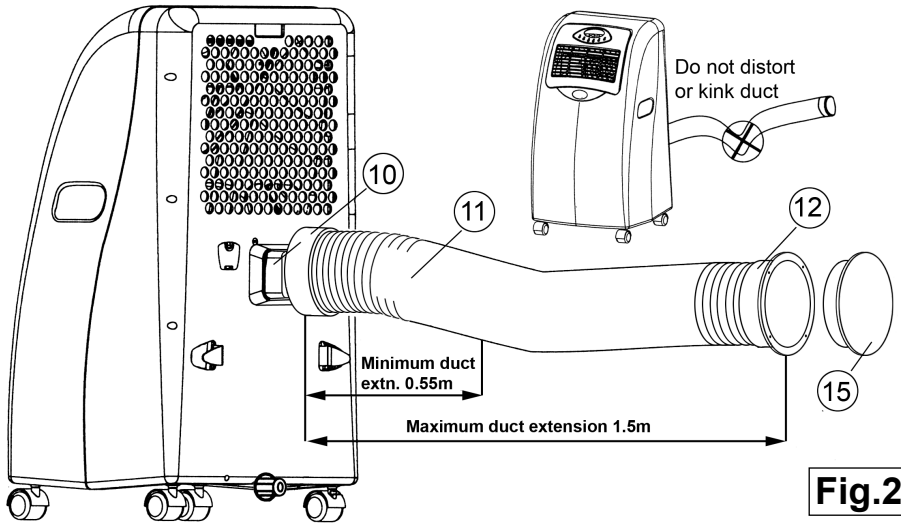

Fig.2
4.1 Assembling the exhaust duct. See fig.2. First extend each end of the duct (11) and attach the inner adaptor (10) and the outer adaptor (12) using a clockwise threading action. Push the inner adaptor into the exhaust air outlet on the back of the unit. See fig.1-7. The exhaust can be extended from 0.55m to 1.55m. The unit is at its most efficient when the air duct is shorter. Use only the duct supplied. Do not further extend the length of the duct with other ducting as this will reduce the efficiency of the unit.